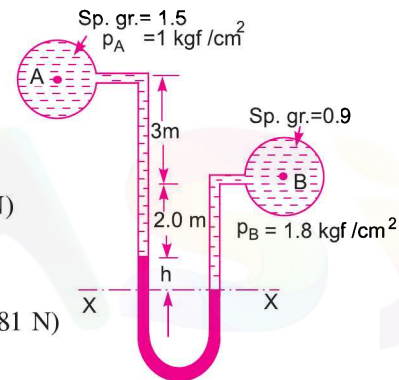

Fig. 2.19
**Problem 2.16** A differential manometer is connected at the two points A and B of two pipes as shown in Fig. 2.19. The pipe A contains a liquid of sp. gr. = 1.5 while pipe B contains a liquid of sp. gr. = 0.9. The pressures at A and B are  $1 \text{ kgf/cm}^2$  and  $1.80 \text{ kgf/cm}^2$  respectively. Find the difference in mercury level in the differential manometer.